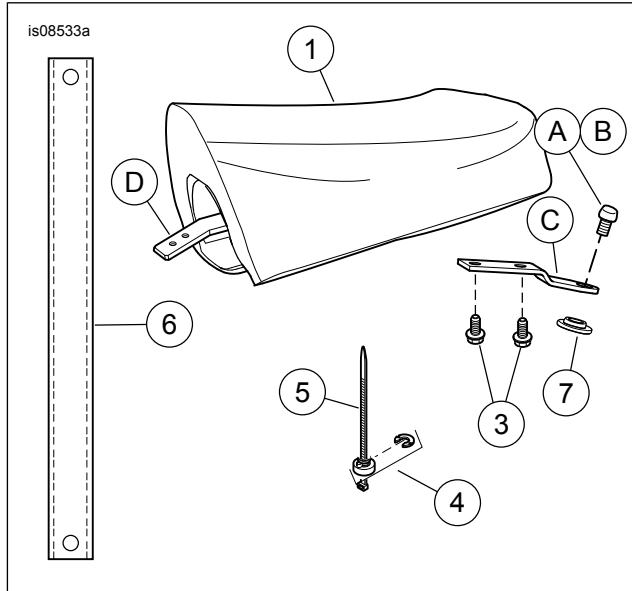

Figure 5. Service Parts: XL Pillion
See Figure 5 and Table 1.
8. See Figure 5. Install the new seat bracket (2). Secure with screws (3). Tighten to 4.5–6.8 N·m (40–60 **in-lbs**).